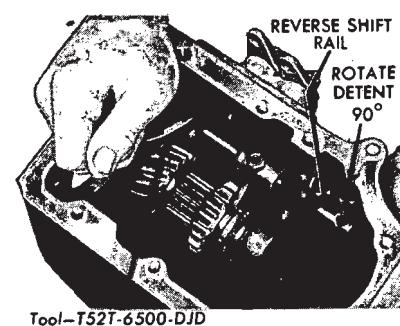

FIG. 11—Rotating Reverse Shift Rail
17. Remove the reverse gear shift fork set screw. Rotate the reverse shift rail 90 degrees as shown in Fig. 11. Slide the shift rail out of the rear of the case. Lift the reverse shift fork from the case.